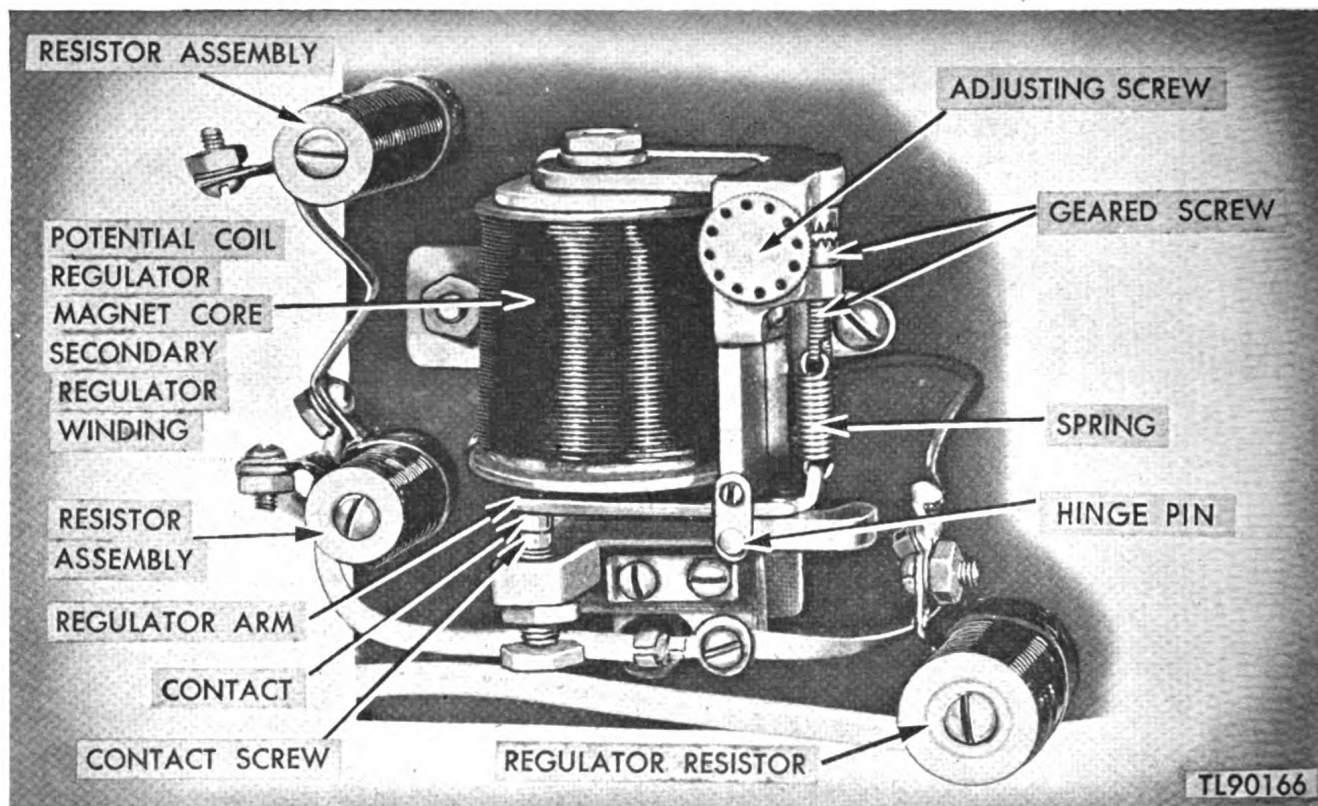

Figure 65. Voltage regulator for Power Unit PE-49-D.
c. The regulator armature (fig. 65) carries a contact which normally is held in contact with the stationary contact screw by a spring. This spring applies tension to the armature against the magnetic pull exerted by the regulator magnet core. The core is magnetized by current from the generator winding, which flows through the contacts when they are closed. When the armature voltage rises to such a value that the current flowing through the regulator